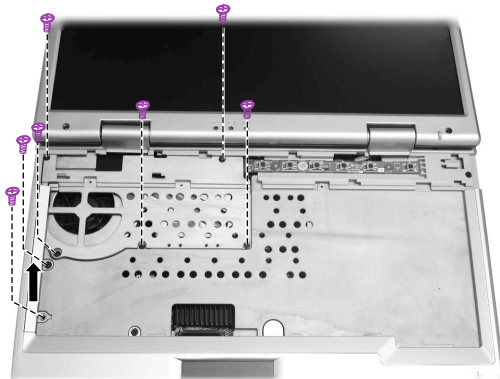

Figure 2-6 Remove the cover and rail
2. Remove seven screws fastening the heatsink cover and the rail. (Figure 2-6)